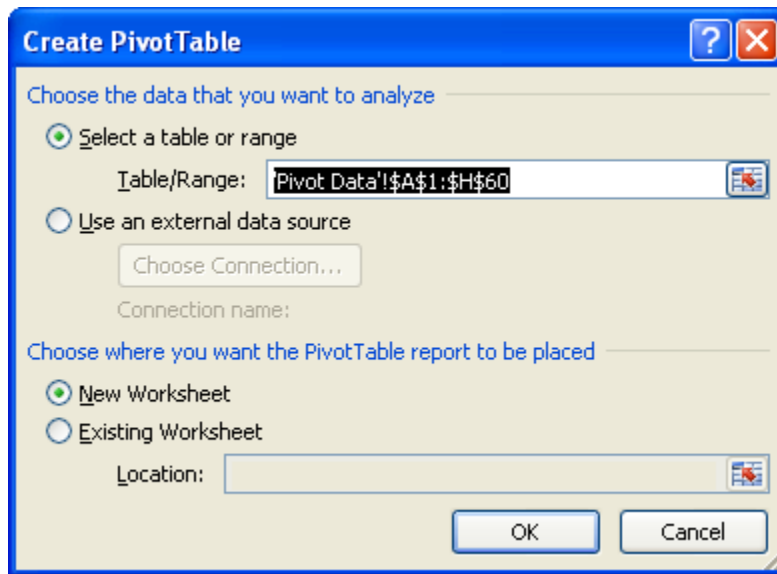

Figure 23 - Pivot tables
- Click on the **Insert** tab, **Pivot Tables** will be the first section, select **Pivot Table**. A dialog box should appear confirming the selected data to be analysed (see Figure 23). Accept the defaults. **OK**